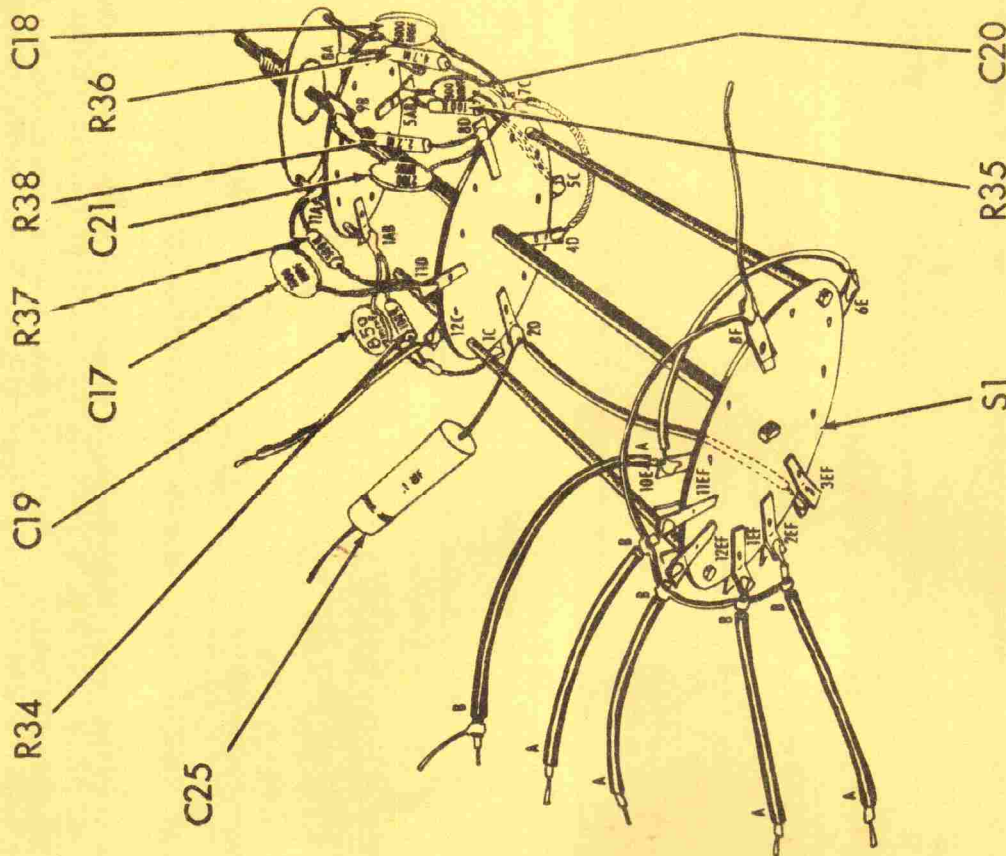

Fig. 2
(✓) Fig. 2. Connect an 850mmf capacitor, C19, and a 100K 5% resistor, R34, from 1B (S) to 1C (S).
(✓) Fig. 2. Connect a 500mmf capacitor, C20, and a 100K 5% resistor, R35, from 5C (S) to 5B (S).
(✓) Fig. 2. Connect a 5000mmf 10% capacitor, C18, and a 4.7 meg resistor, R36, from 7C (C) to 8A (S).
(✓) Fig. 2. Connect a 2700mmf capacitor, C21, and a 2.2 meg resistor, R38, from 8D (S) to 9B (S).
(✓) Fig. 2. Connect a 3300mmf capacitor, C17, and a 560K resistor, R37, from 11D (S) to 11A (S).
(✓) Fig. 2. Connect a blue lead from 4D (S) to 7C (S).
(✓) Fig. 2. Connect a 2" blue lead to 12C (S). Leave the other end free.
(✓) Fig. 2. Connect one end of a .1mfd 20% capacitor, C25, to 2D (C). This lead should be only 1" long. Leave the other end free.
(✓) Fig. 2. Connect a bare lead from 2D (S) to 3E (S).
(✓) Fig. 2. Connect a 2" blue lead from 10E (C) to 6E (S).
(✓) Fig. 2. Connect a 5" piece of bare wire to 8F (C). Leave the other end free.
(✓) Fig. 2. Cut four 5" length of shielded cable. On one end of each, strip back the braided shield and outer insulation 3/4". Strip back the inner insulation 3/8". (Call this end "A".) On the other end of each (end "B"), the outer insulation is stripped back 1", the braid shield 3/4", and the inner insulation 3/8".
(✓) Fig. 2. Connect the inner leads of the four cables (end "B"), so that one connects to each of the following four switch terminals:
(✓) Fig. 2. Cut a 5" piece of bare wire. Wrap this wire one turn around the exposed outer braid on the "B" end of each of the shielded cables now connected to 2F, 1F, 12F, and 11F consecutively and in that order, leaving 3/8" of bare wire between wrappings. Solder the bare to the outer braid on each cable quickly with a hot, clean iron so as to minimize heating of the cable insulation. Connect the free end of the bare wire (coming off the braid of the cable connected to 11F) using spaghetti, to 8F (S).
(✓) Fig. 2. Cut a 6" length of shielded cable. On one end, strip back the braided shield and outer insulation 3/4". Strip back the inner insulation 3/8". (Call this end "A".) On the other end (end "B"), the outer insulation is stripped back 1" the braided shield 3/4" and the inner insulation 3/8". On end "B", wrap one turn of a 2" piece of bare wire around the braided shield and solder with a minimum of heat. Connect the inner lead of end "A" to 10E (S). Leave end "B" and the small piece of bare wire free.